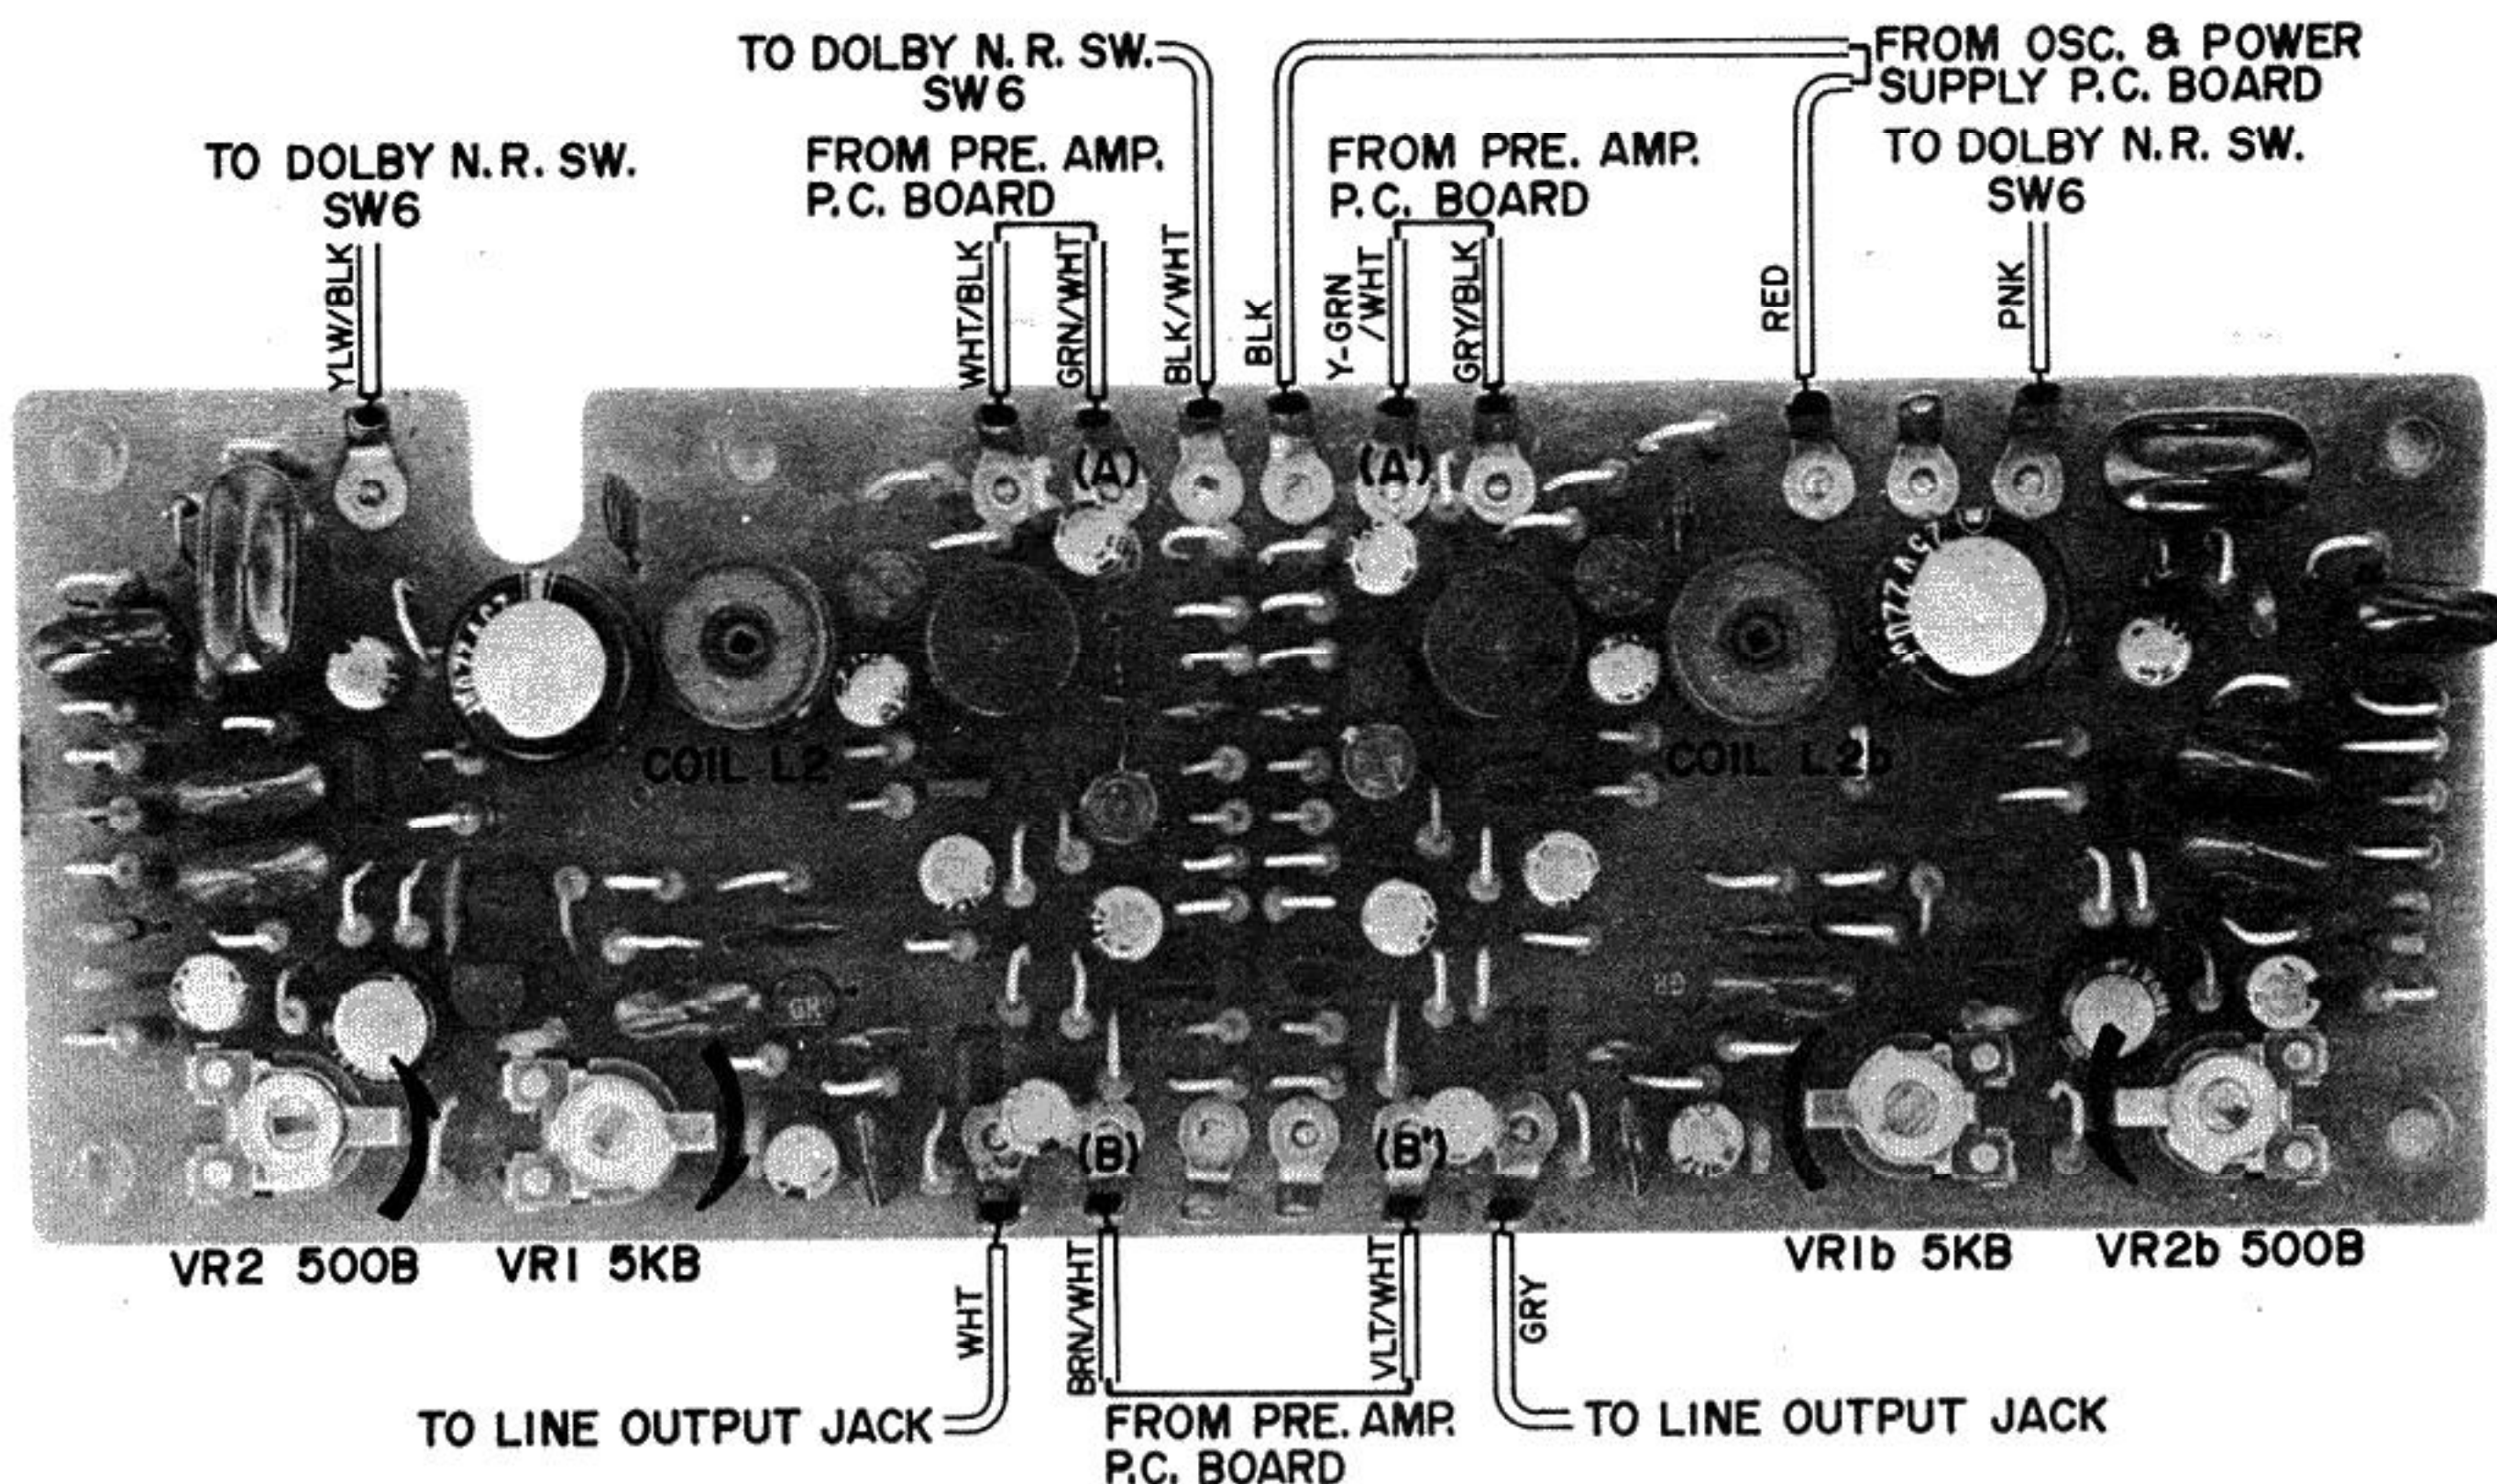

Fig. 18 DOLBY AMP. P.C. BOARD CG-5202 (Face Side)
- b) Turn Dolby N.R. Amp. P.C. Board Dolby Amp. Gain Adjustment Semi-fixed Resistors VR2 500 Ω (left ch.) VR2b 500 Ω (right ch.) and FET Gate Bias Adjustment Semi-fixed Resistors VR1 5 k Ω (left ch.) VR1b 5 k Ω (right ch.) as far as they will go in the direction of the arrows shown in Fig. 18.
- f) At this condition, further adjust the Attenuator so that the line output level at Point (A) shown in Fig. 18 is -28.5 dB. At this time, confirm that the level at Point (B) shown in Fig. 18 is -28.5 ± 0.5 dB.
- g) Turn Dolby Switch SW6 to ON position. At this time, adjust Dolby Amp. Gain Adjustment Semi-fixed Resistors VR2 500 Ω (left ch.) VR3b 500 Ω (right ch.) until the voltage at Point (B) shown in Fig. 18 is increased by 10 dB.
- h) Disconnect ground from Test Point "TP" (FET Gate). At this time, adjust FET Gate Bias Adjustment Semi-fixed Resistors VR1 5 k Ω (left ch.) VR1b 5 k Ω (right ch.) so that the voltage at Point (B) shown in Fig. 18 is reduced by 2 dB.